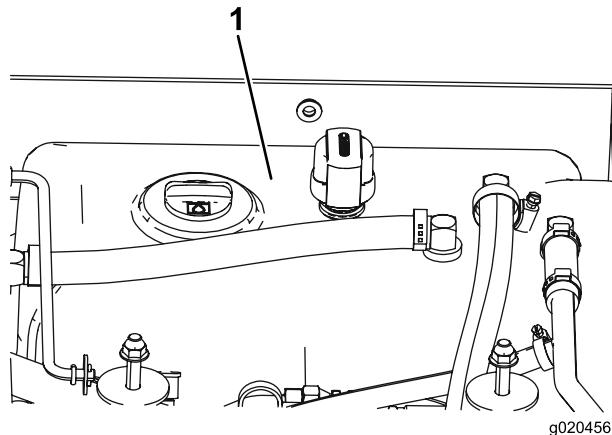

Figure 72
4. Fill the reservoir (Figure 72) with hydraulic fluid; refer to Checking the Hydraulic Fluid \(page 52\).